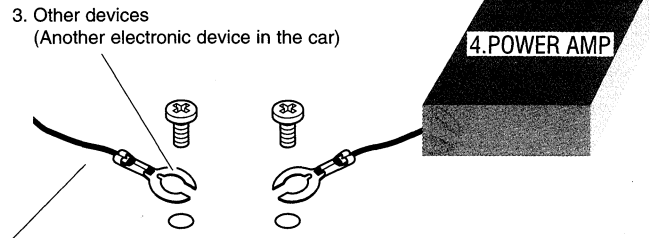

Fig.4
- When connecting the power amp (sold separately) to this unit ensure that the ground wire for the power amp is properly connected to metal parts of the car's body. Connect the ground wire of the power amp with a different screw from the one you used to connect the ground wire for this unit or any other device. Should the screw for the power amp's ground wire loosen or fall out, it may result in this unit emitting smoke or malfunctioning. (Fig.4)